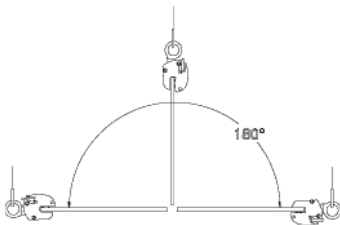

Figure 8
4. The “**VL**” (“**AVL**”) (including the “VL” and “AVL” models with the universal shackle, auxiliary lock, and/or stainless gripping cam and pad), “**VL-Channel**”, and “**VL-SJ**” models may be used to **lift material from a vertical position or from horizontal to vertical to horizontal through a 180° arc (Fig. 8)**.